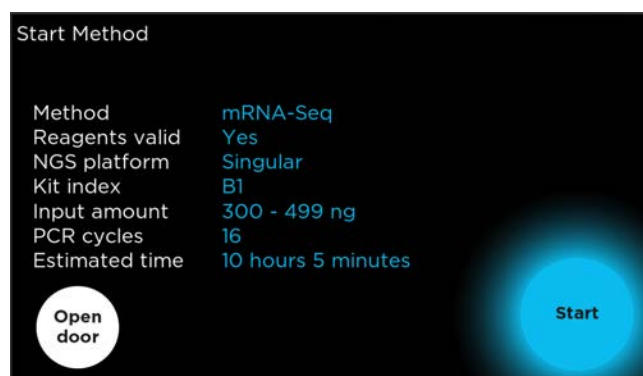

Figure 14. Start method screen.
8. A summary of the run parameters is displayed (Figure 14). If you need to revise these parameters, touch “Open door” and repeat the run setup procedure. If the displayed run parameters are correct, touch “Start” to start the run.